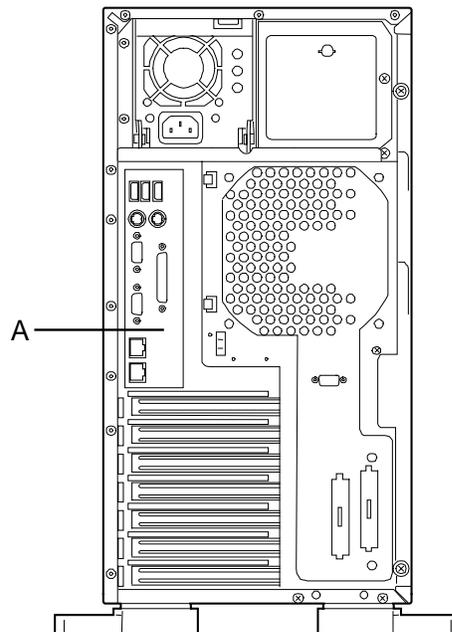

Figure 4-58. Removing the I/O shield
3. Shutdown the operating system (OS).
9. The I/O shield snaps into the rear panel. To remove the I/O shield, push in on the perimeter of the shield towards the inside of the chassis. See Figure 4-58, A for the location of the I/O shield.